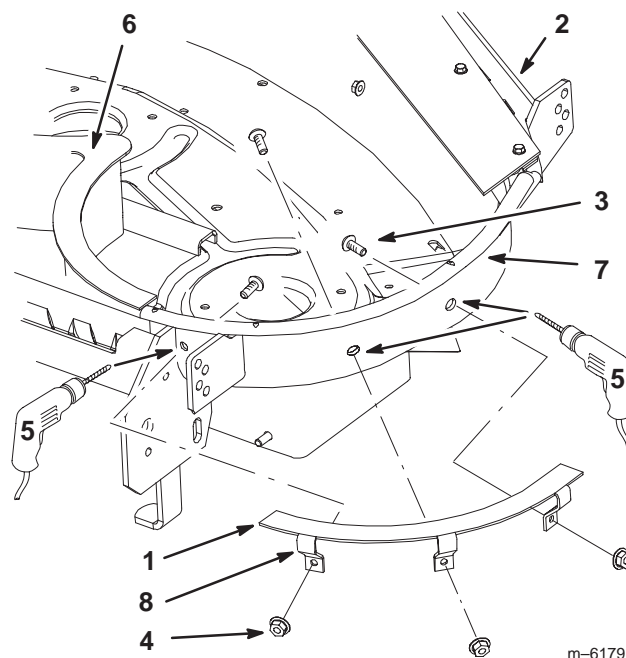

Figure 13
6. Install the left rear baffle with 3 button head socket bolts (5/16 x 3/4 inch) and 3 flange nuts (5/16 inch) (Fig. 13).
Important Make sure the bolt heads are installed on the inside of the cutting chamber. See figure 13.
4. Using the baffle as a template, mark, center punch and drill 1/8 inch pilot holes at the 3 locations (Fig. 13).
5. Drill 11/32 inch dia. holes through the pilot holes (Fig. 13).